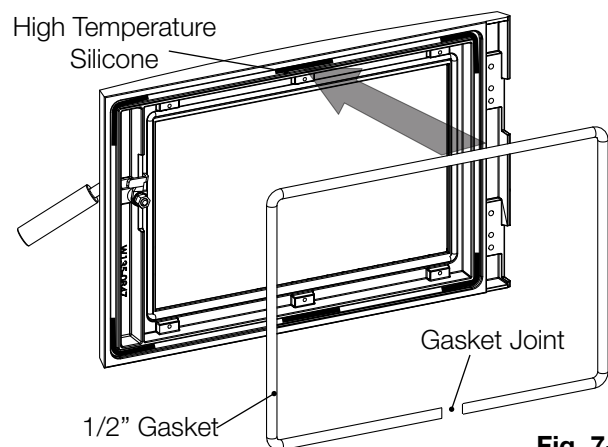

Fig. 7-4
2. Apply **high temperature silicone** (not supplied) in the gasket groove as illustrated (**Fig. 7-4**).
3. Cut the 1/2” gasket (supplied) to size and place on top of the silicone. Press the gasket down firmly to ensure it stays in place. Ensure the gasket joint is at the bottom as illustrated (**Fig. 7-4**).